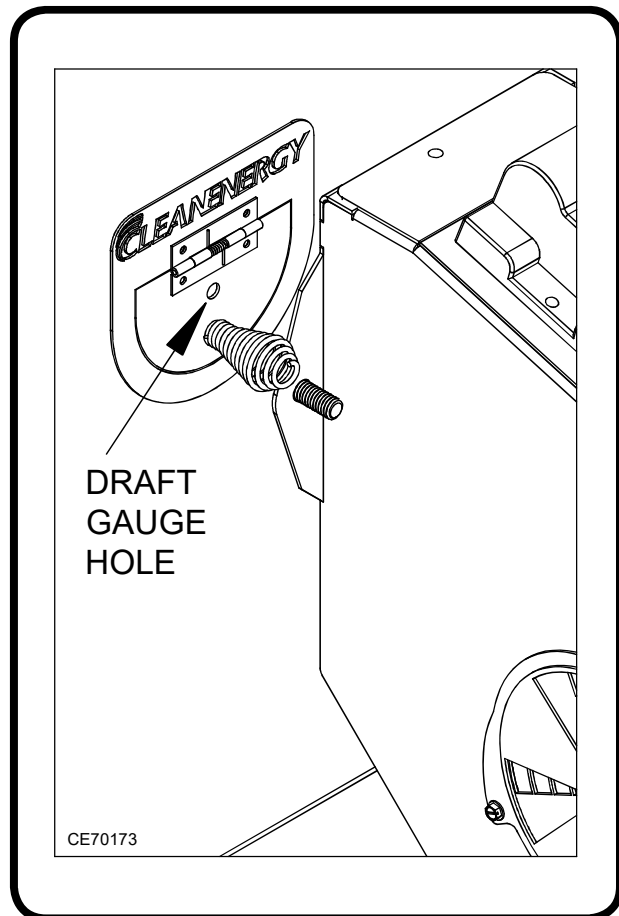

Figure 27: Draft Gauge Hole in the Observation Port
- (1) Allow the furnace to run for 5 to 10 minutes.
- (2) Refer to Figure 27 to locate the draft gauge hole.
- (3) Insert a draft gauge through the hole in the observation port. Follow the manufacturer's instructions for adjusting the barometric damper to obtain  $-0.02$ " w.c. draft over fire.
- (4) If a proper draft is not obtained, follow the instructions below to check for a vacuum in your building.